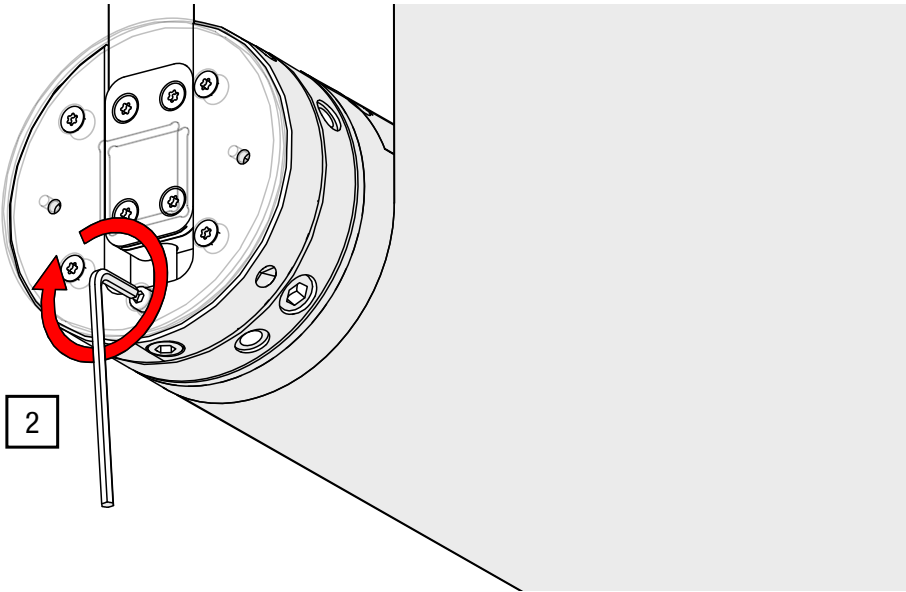

Fig. 34: Setting the levelling – Loosen the locking screw
2. Loosen the locking screw with an Allen key AF 5 by approx. half a turn (see Fig. 34).
5. Tighten the locking screw from step 2 (see Fig. 34) with an Allen key AF 5 hand-tight.